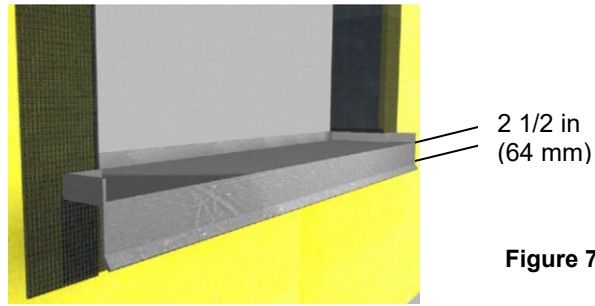

Figure 7
- a. Install a watertight pan flashing at all sill locations - Figure 7.
- c. The flashing shall extend a minimum of 2 1/2 in (64 mm) down over the face of the Outsulation Plus MD System - Figure 7.